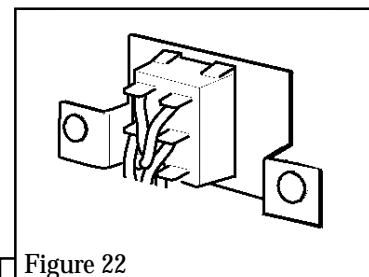

Figure 22
- Snap fit the switch into the opening in the switch mounting bracket. See figure 22
- Snap fit the switch into the opening in the switch mounting bracket. See figure 22.